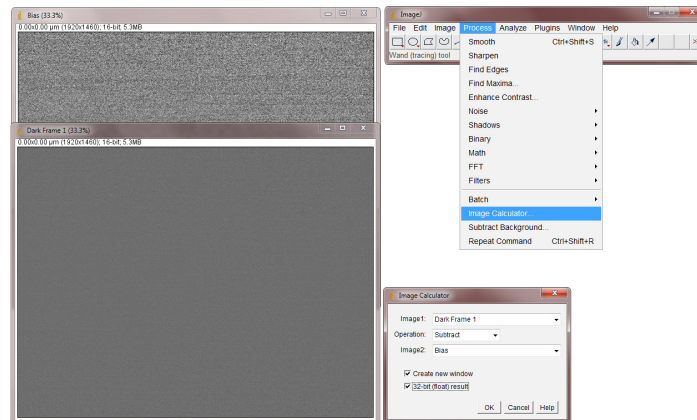

Figure 14
3. In ImageJ, subtract the bias frame from one of the long exposure frames by selecting Image Calculator from the Analyze menu. Select the two frames and Subtract, you will need to float the result. Press OK to generate the image (Figure 14).